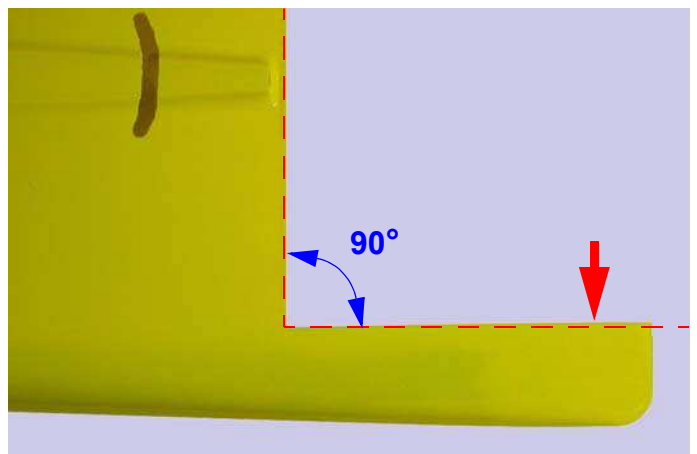

Fig.7: Remove the excess part.
- using a file, remove the excess part (see figure 7) up to form an angle of 90° with the fin;